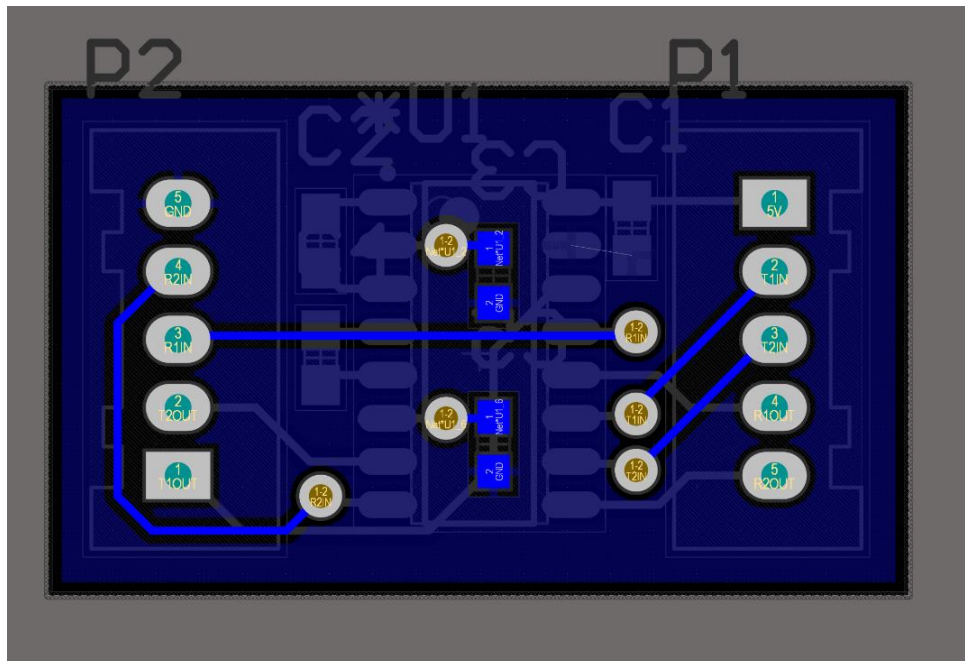

Figure 15: View of Completed Bottom Polygon Pour
19. Repeat steps 8-14 on your own for the bottom layer of the board. If you did it correctly, you should see something similar to Figure 15.